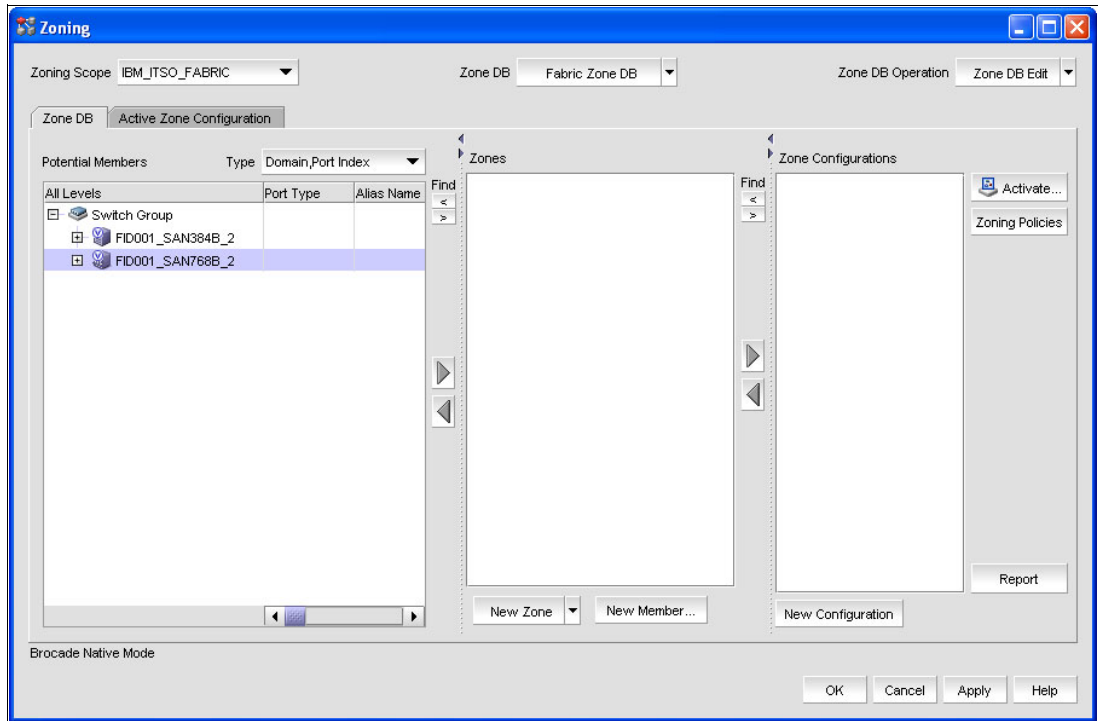

Figure 8-50 Zoning dialog overview
Figure 8-50 on page 292 is displayed, and in the Zoning Scope drop-down menu in the upper-left corner of the window, select the Director for which you want to create Zoning.
5. To place the selected ports in the new zone in the middle of the window, click the arrow pointing to the right. Repeat steps Figure 8-50 to 5 for all zones, you want to create.